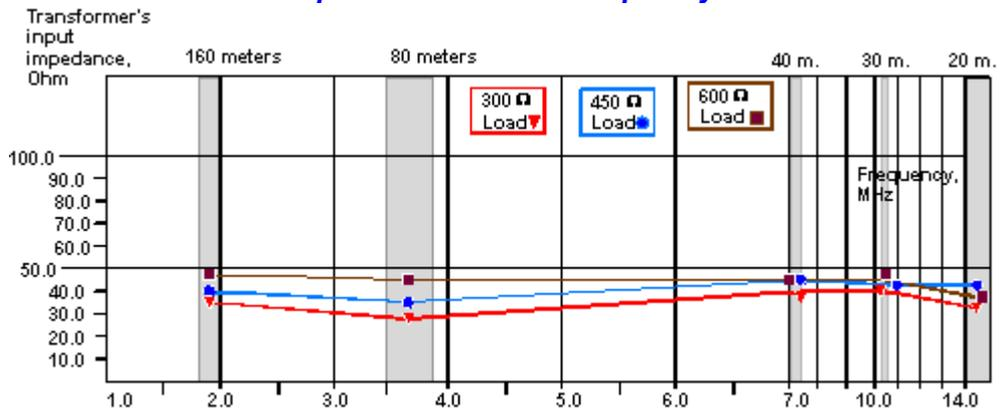

Figure 4
- An input resistance vs. frequency (Fig. 4),